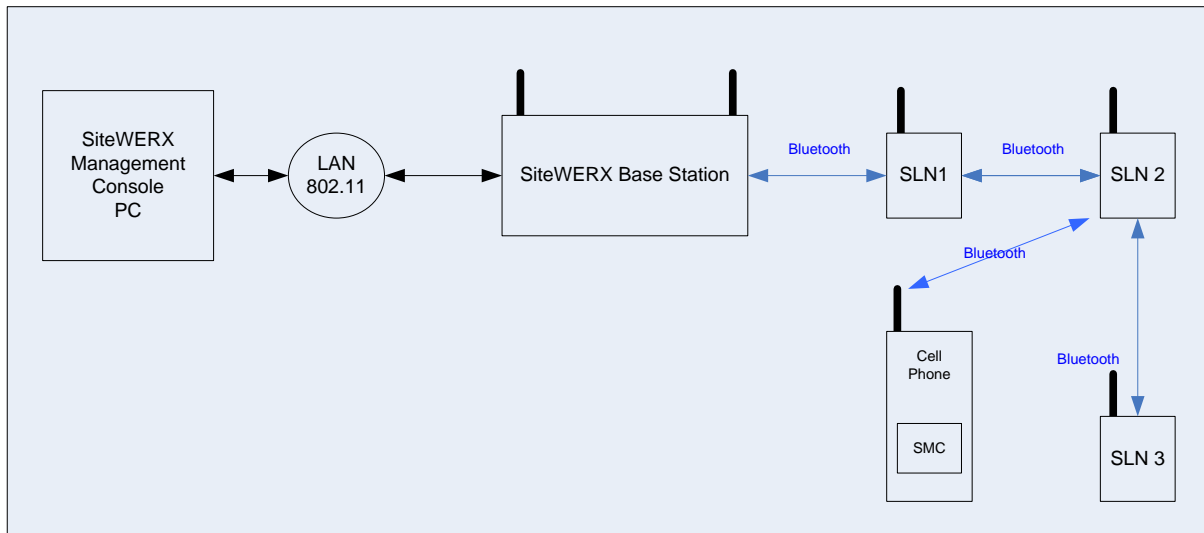

Figure 1 SiteWERX Location System
- Figure 1 SiteWERX Location System..... 2**
The SBS-W and SLN's form a communication chain (scatternet) using Bluetooth radios. The SBS-W uses an 802.11 WIFI module to maintain a communication link with a local area network, allowing the system to be managed by a PC with access to this LAN. Mobile devices, such as cell phones and PDAs, running the SiteWERX Mobile Client (SMC) are able to communicate with an SLN to receive location and real-time messages, reference Figure 1.